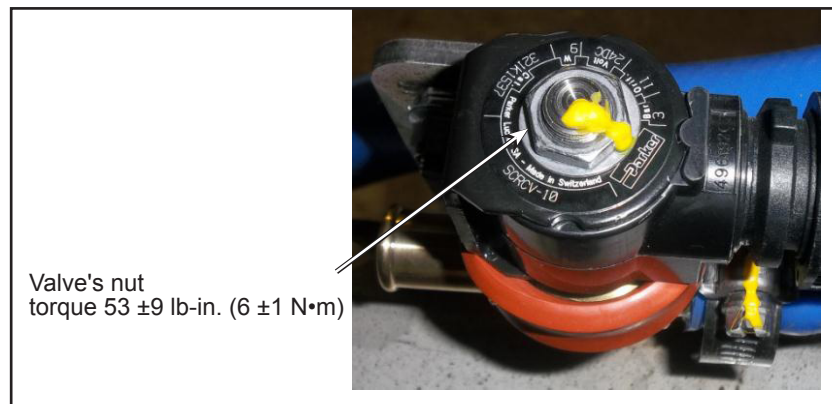

Figure 2 - Top View of the Valve
- 1.3. Remove the nut on top of the valve. See Figure 2.